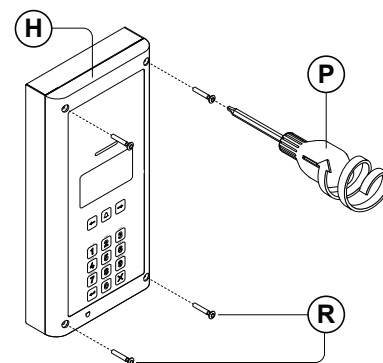

Fig. 58
9. After the system has been tested and is working correctly, move back the module support frame **(H)** carefully and then fix it to the surface box **(C)** using the screwdriver provided **(P)** (using the torx end) and the torx pin security screws provided **(R)** , as shown in **Fig.58**. **Note: do not over tighten the screws more than is necessary.**